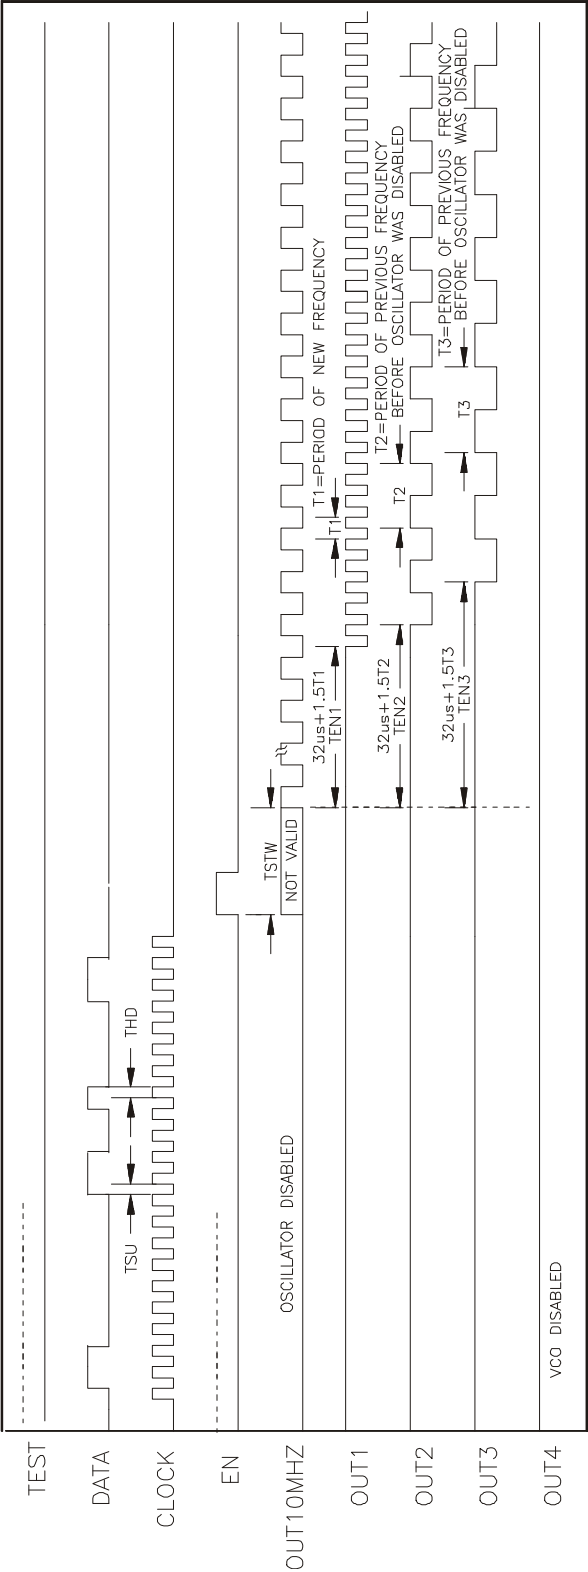

FIGURE 6 : 10MHZ OSCILLATOR FROM DISABLED TO ENABLED
**REF0=1 after it was 0** : (figure 6)